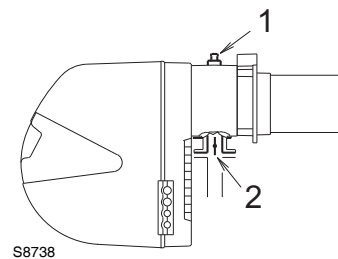

Fig. 38
Gas pressure measured at the test point 1)(Fig. 38), with:
Load loss at gas butterfly valve 2)(Fig. 38) with maximum opening: 90°.
- Subtract the combustion chamber pressure from the gas pressure measured at test point 1)(Fig. 38).
- Gas pressure at test point 1)(Fig. 38) = 11.3 mbar
To know the required gas pressure at test point 1)(Fig. 38), set the maximum output required from the burner operation, then:
- Read, on the right (column 1) the socket pressure 1)(Fig. 38).
gas pressure at test point 1)(Fig. 38)